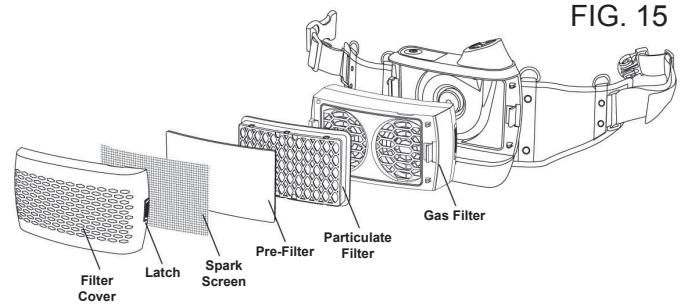

FIG. 15
- Please install the particle filter and gas filter according to fig.15.